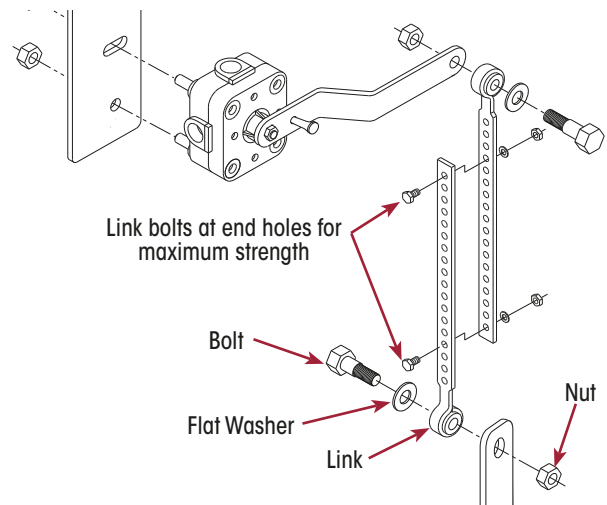

Figure 189: HCV Link Assembly
14. Fasten half the link to the height control valve control arm and the other half to the lower mounting bracket with the provided shoulder bolts. Position the washer and bolt head on the link side and the nut against the lower bracket or HCV arm. Refer Figure 189.
17. Line up the nearest set of holes on both halves of the link. Install the link bolts at the ends and tighten. Refer Figure 189.